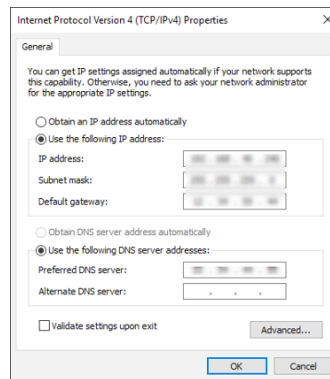

Fig. 3
- Should the connection be unavailable, please check the IPV4 properties of the network card and finally type a static address for the network and a default gateway (Fig.3)